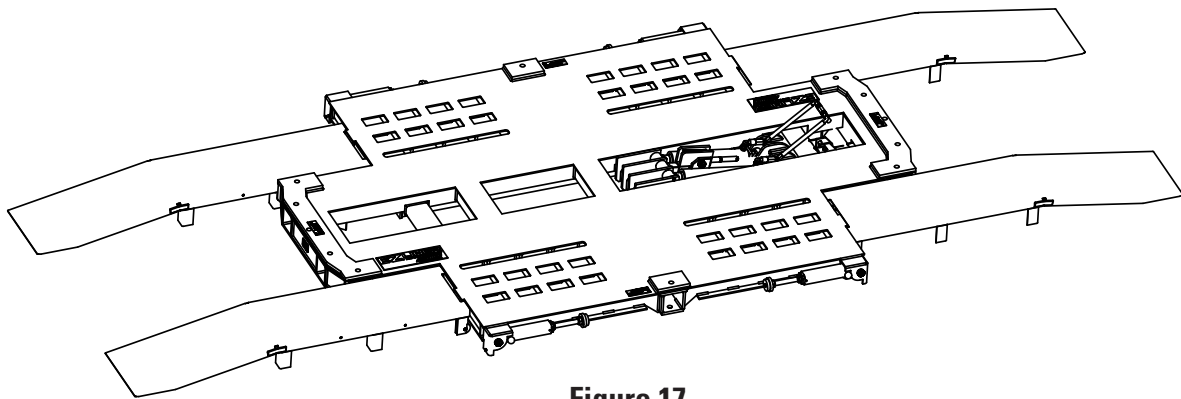

Figure 17
1. Roll a Ramp to each of the four corners of the lift (see Figure 17).